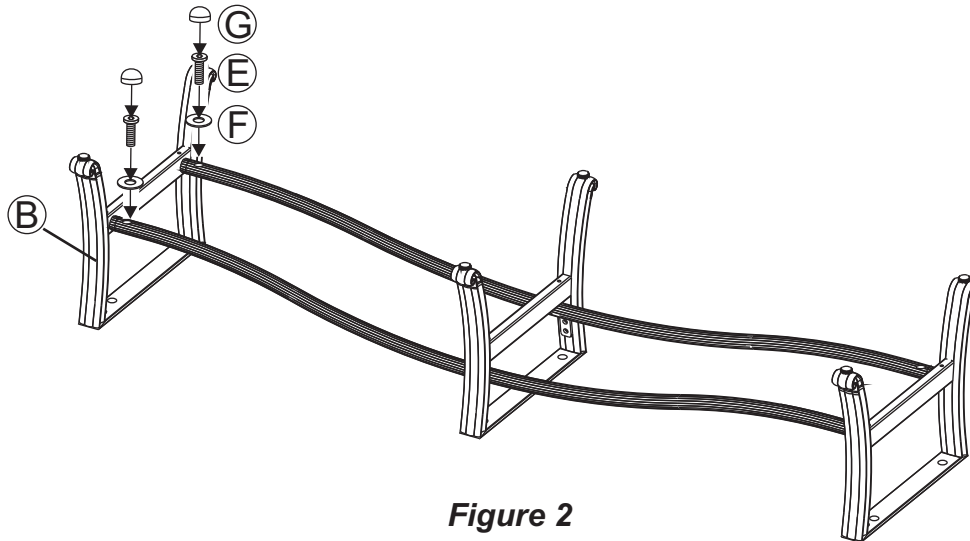

Figure 2
2 **Critical Step: The "U" metal plates must be installed in the proper location.** Read this step and carefully examine. Insert the "U" metal plate, so that the "U" bar and rocker plate are between both sides of the "U" metal plate. Make sure that the holes in the "U" metal plate are completely aligned with the holes in the "U" bar as shown in **Figure 2**. Guide the bolts through the holes on the top side of the "U" metal plate, through the holes in the "U" bar portion of the chair, through the holes in the rocker plate and then, most importantly, through the holes in the bottom side of the "U" metal plate. It is very important that the holes in the bottom portion of the "U" metal plate be placed directly beneath the holes in the rocker plate. Add a spring washer and a nut to each bolt as shown in **Figure 2**. **Hand tighten nuts 3-4 revolutions only.** Repeat the same procedure on the other side.
- 2 Attach a side leg to the leg connector bar by using the bolts and washers as shown in **Figure 2**. Guide the bolts through the holes in the leg connector bar, into the pre-drilled holes in the side leg. **Hand tighten only 2-3 turns**. Repeat for the other side leg.
Attach a leg to the leg connector bracket by carefully guiding the bolts already in place on the table legs (each leg has two bolts) through the holes in the leg connector bracket. Add a washer and a nut to the end of each bolt as shown in **Fig.2**. **Hand tighten only 2-3 turns**. Repeat on the other three legs.